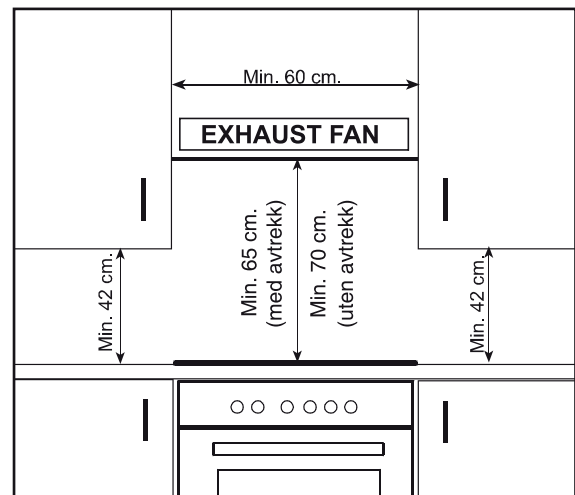

Figure 9
- Required changes to wall cabinets and exhaust fans above the built-in combined product as well as minimum height from the oven board are show in Figure 9.